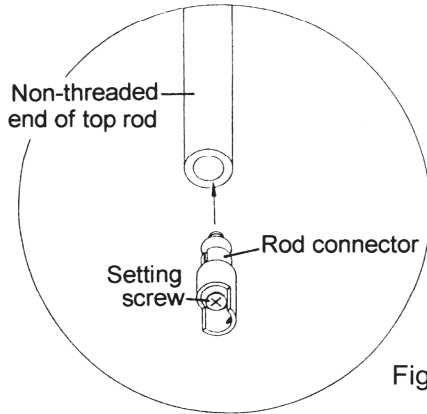

Figure 11
4. Insert rod connector into the non-threaded end of top rod and fasten the setting screw securely. (See Figure 11.)